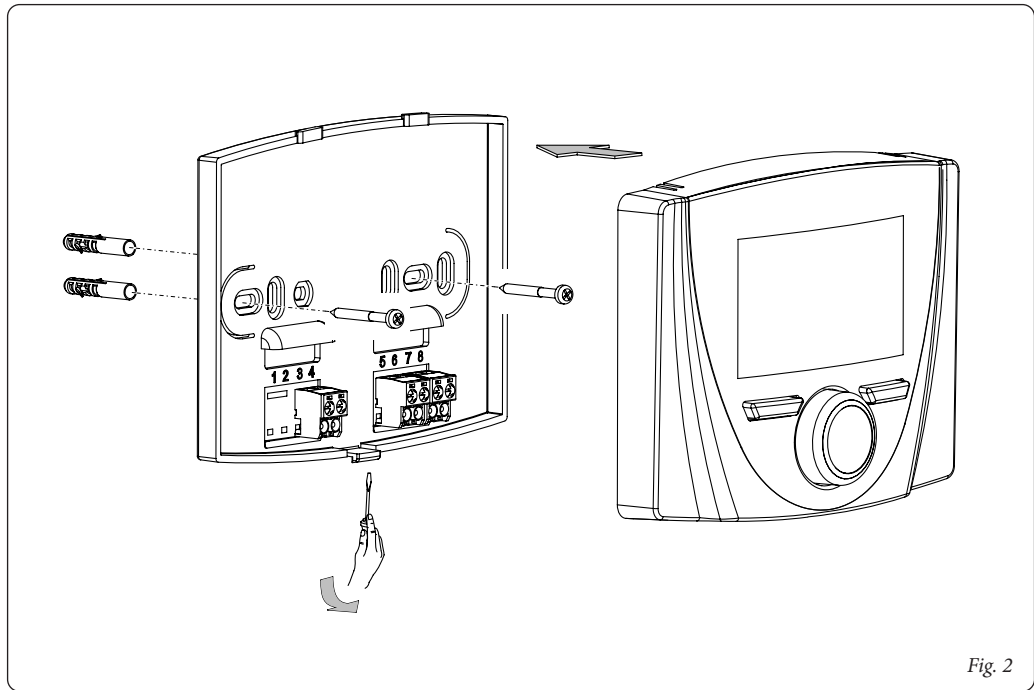

Fig. 2
- 1) Separate the fixing template from the body of the Zone Remote Panel using a screwdriver as a lever in the relative recess (*Fig. 2*). Install the Zone Remote Panel away from heat sources and in a suitable position to detect the room temperature correctly.